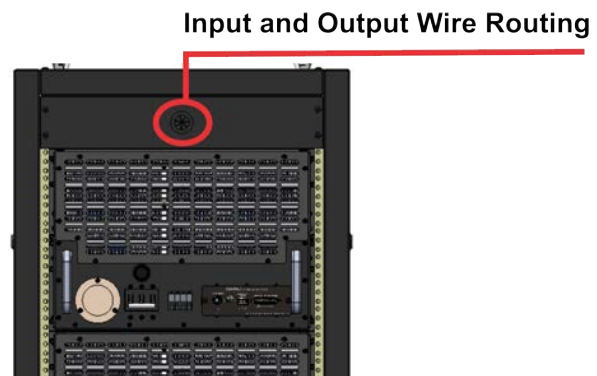

Figure 2.9 – Grommet for routing input and output wiring into the system case
1. Route your output cable through the grommet in the panel located at the top of the cabinet back. See **Figure 2.9**. Make sure the cable is long enough to reach the back panel of the Master amplifier module.